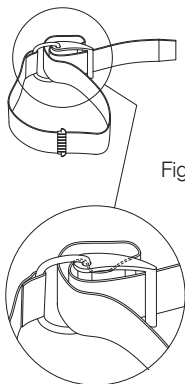
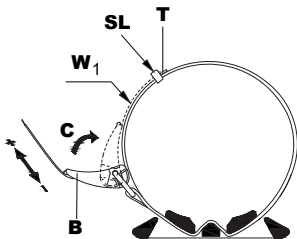

Fig. 2-4
Fig. 2-7
1. Rotate the buckle until it snaps into the open position. Slide the strap around the plastic buckle as shown in the figure (Fig. 2-4), wet the strap before clamping it in place on the tank, and adjust the length (Fig. 2-7).